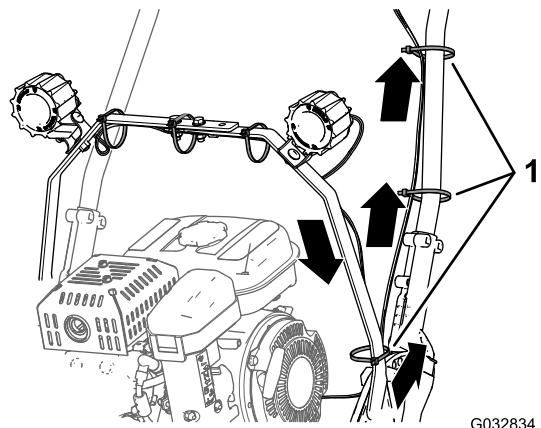

Figure 10
1. Route the wiring harness for the LED light kit down the left light-bar strap and across to the left handle-bar tube (Figure 10).
2. Route the wire harness up the left handle-bar tube to the control panel (Figure 10).
3. Secure the wire harness to the left light-bar strap and handle-bar tube with 3 cable ties as shown in Figure 10.